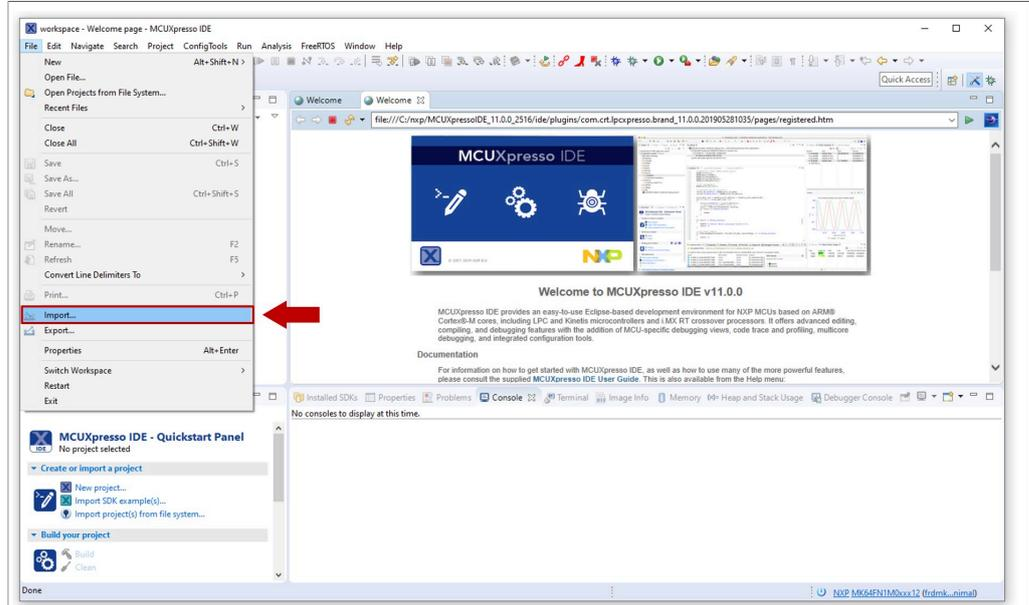

Figure 29. Import a project wizard
1. Go to *File* → *Import* using the top bar menu as shown in Figure 29.